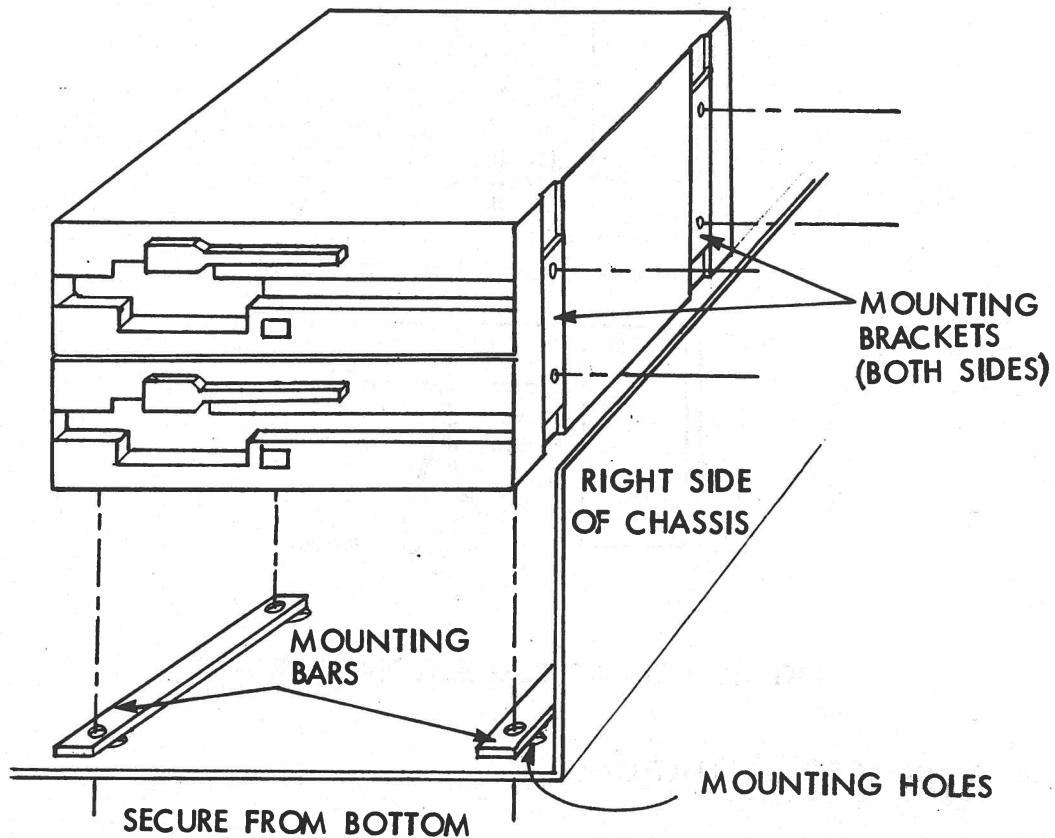

FIGURE 2-3: FLOPPY DRIVES INSTALLATION
1. Using Figure 2-3 as a guide, install two mounting brackets on each side of the drives using #6-32 flathead screws.
When installing other 8" devices such as a standard floppy drive or tape cartridge transport, place the device on the mounting bars shown in Figure 2-3 and secure from the bottom mounting holes using #8-32 panhead screws. Using Figure 2-1 as a guide, connect the proper power cables to the power connectors.
8. Place the second drive over the mounting bars shown in Figure 2-3 and secure from the bottom using #6-32 x 3/8 panhead screws.